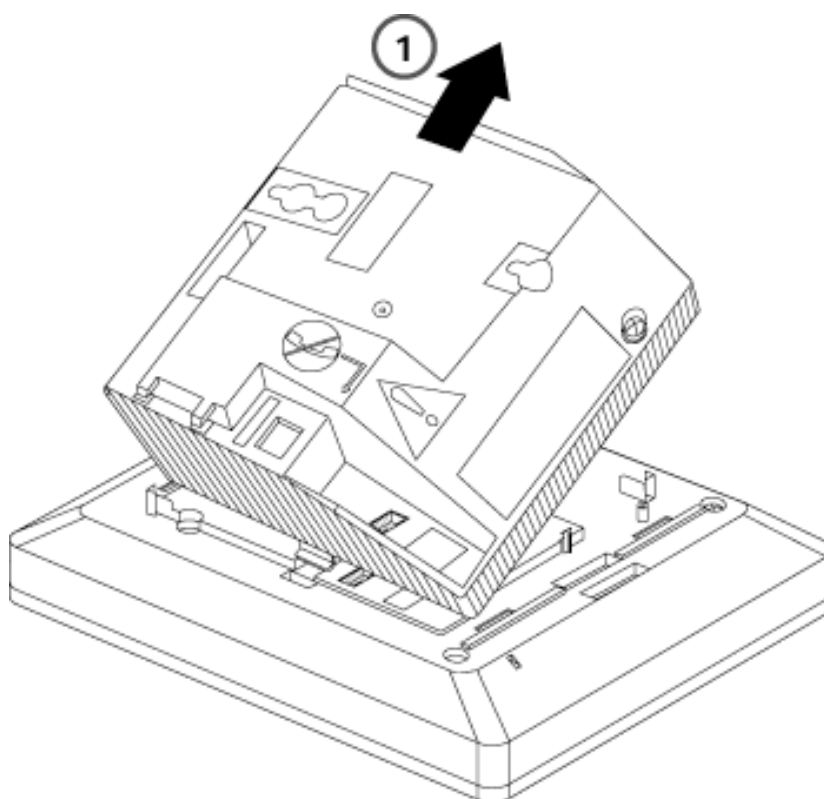

Figure 3-33. Removing the Module Cover
4. Lift module cover out of locating slot and set aside as shown in item 1 in Figure 3-33.